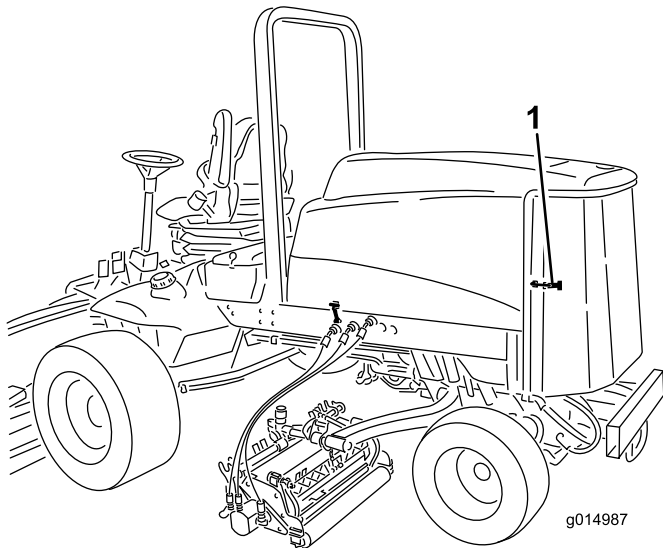

Figure 76
1. Unlatch and swing open rear screen (Figure 76). Clean the screen thoroughly of all debris.